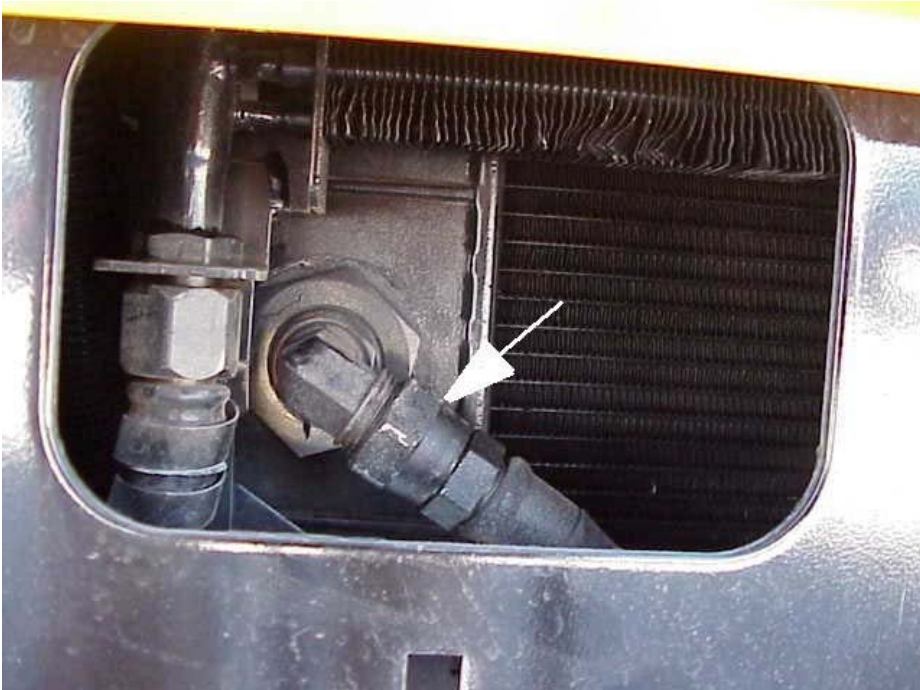

Figure 4 View Through Bumper Opening on Passenger Side, Disconnect Straight Flare Fitting (Arrow)
2. See Figure 4 for Enlarged View